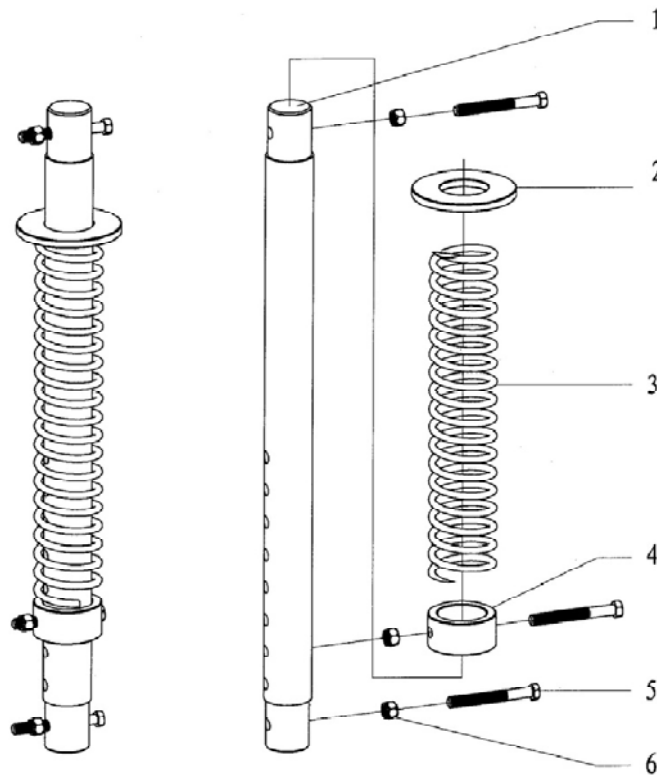

Fig 28
7.25. Front guide poleAssembly (Fig28, Table27)